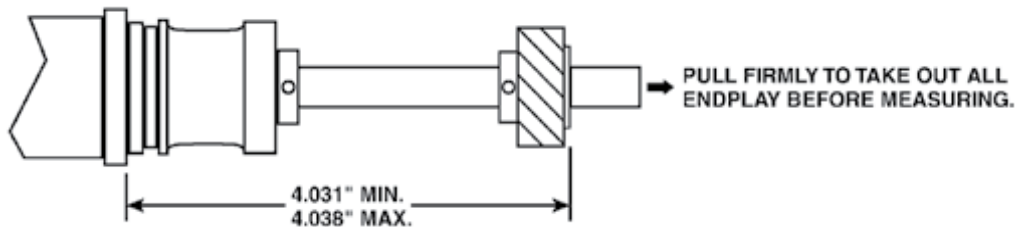

Fig. 1
- STEP 6:** Pull distributor shaft out of distributor housing to eliminate endplay (see Fig. 1).
- STEP 7:** Check location of distributor gear on distributor shaft (see Fig. 1). If it is not in the correct location, use a press to move the gear to the correct location.
NOTE: It is important that the dimensions called out in Fig. 1 are maintained while drilling.
- STEP 9:** Insert roll pin and check dimensions (see Fig. 1).